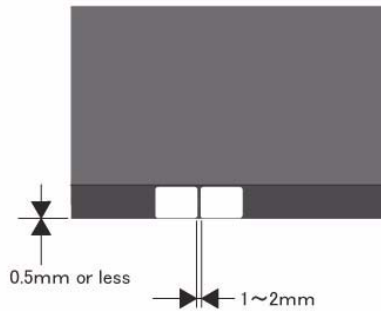

Figure 2 Paste the new TR0 Seal
9. Paste the new TR0 Seal at approx. 1mm to 2mm beside the old TR0 Seal and less than 0.5mm away from the edge of the Transfer Belt. (**Figure 2**)